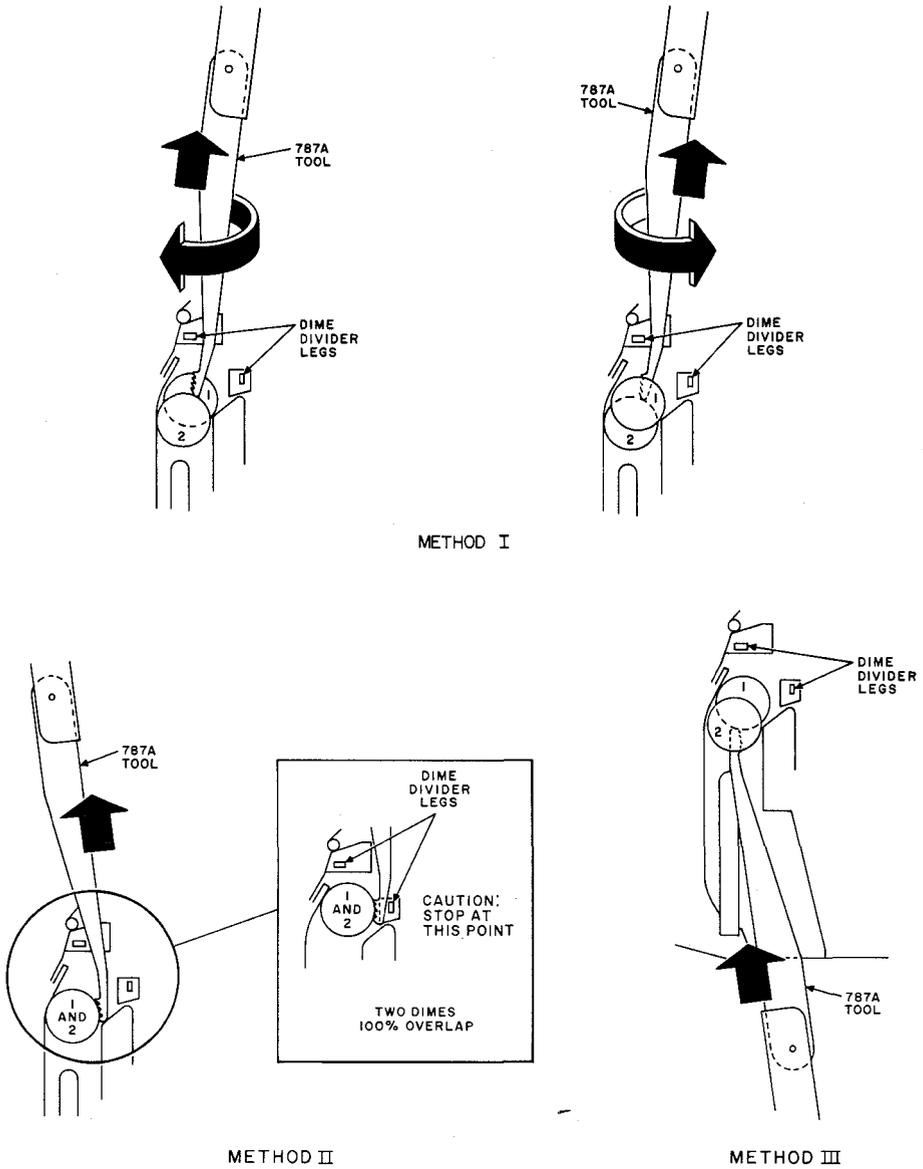

Fig. 43—Method for Removing Jammed Dimes From Chute
- (c) If two dimes are partially overlapped, the top dime can be hooked on the face and pulled out as shown in Method I (Fig. 43).
- (1) Begin unjamming the dimes by inserting the 787A tool as shown in Method II (Fig. 43), hooking onto the dime's edge, and pulling up.